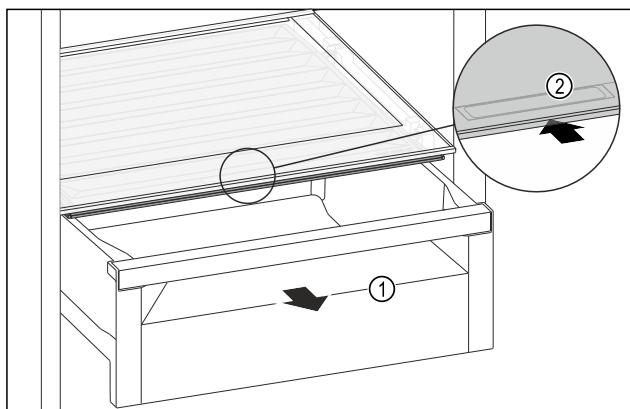

Fig. 123
- ▶ Pull out the drawer Fig. 123 (1).
- ▶ Grip the handle recess Fig. 123 (2) on the lid while pulling the lid backward at the same time.